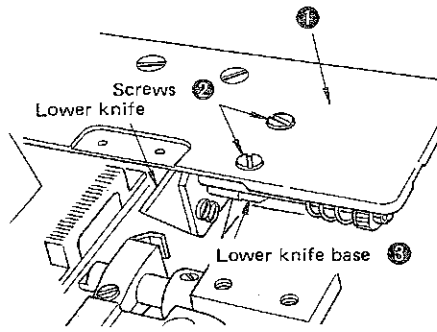

Fig. IV-8-2
Loosen two screws ② (left-hand side and right-hand side) on the table surface ④, and move lower knife base ③ in a lateral direction so that the desired cutting width of the lower knife is obtained. Then tighten the screws ② to fix the lower knife base in place. (See Fig. IV-8-2)